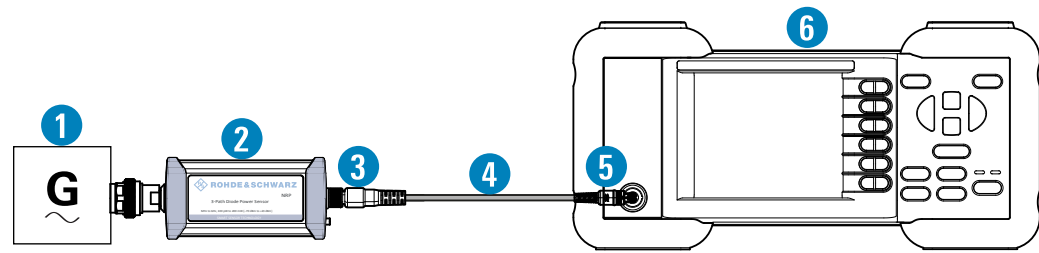

Figure 5-5: Setup with an R&S NRP2 base unit
1. Connect the cables as shown in Figure 5-5: